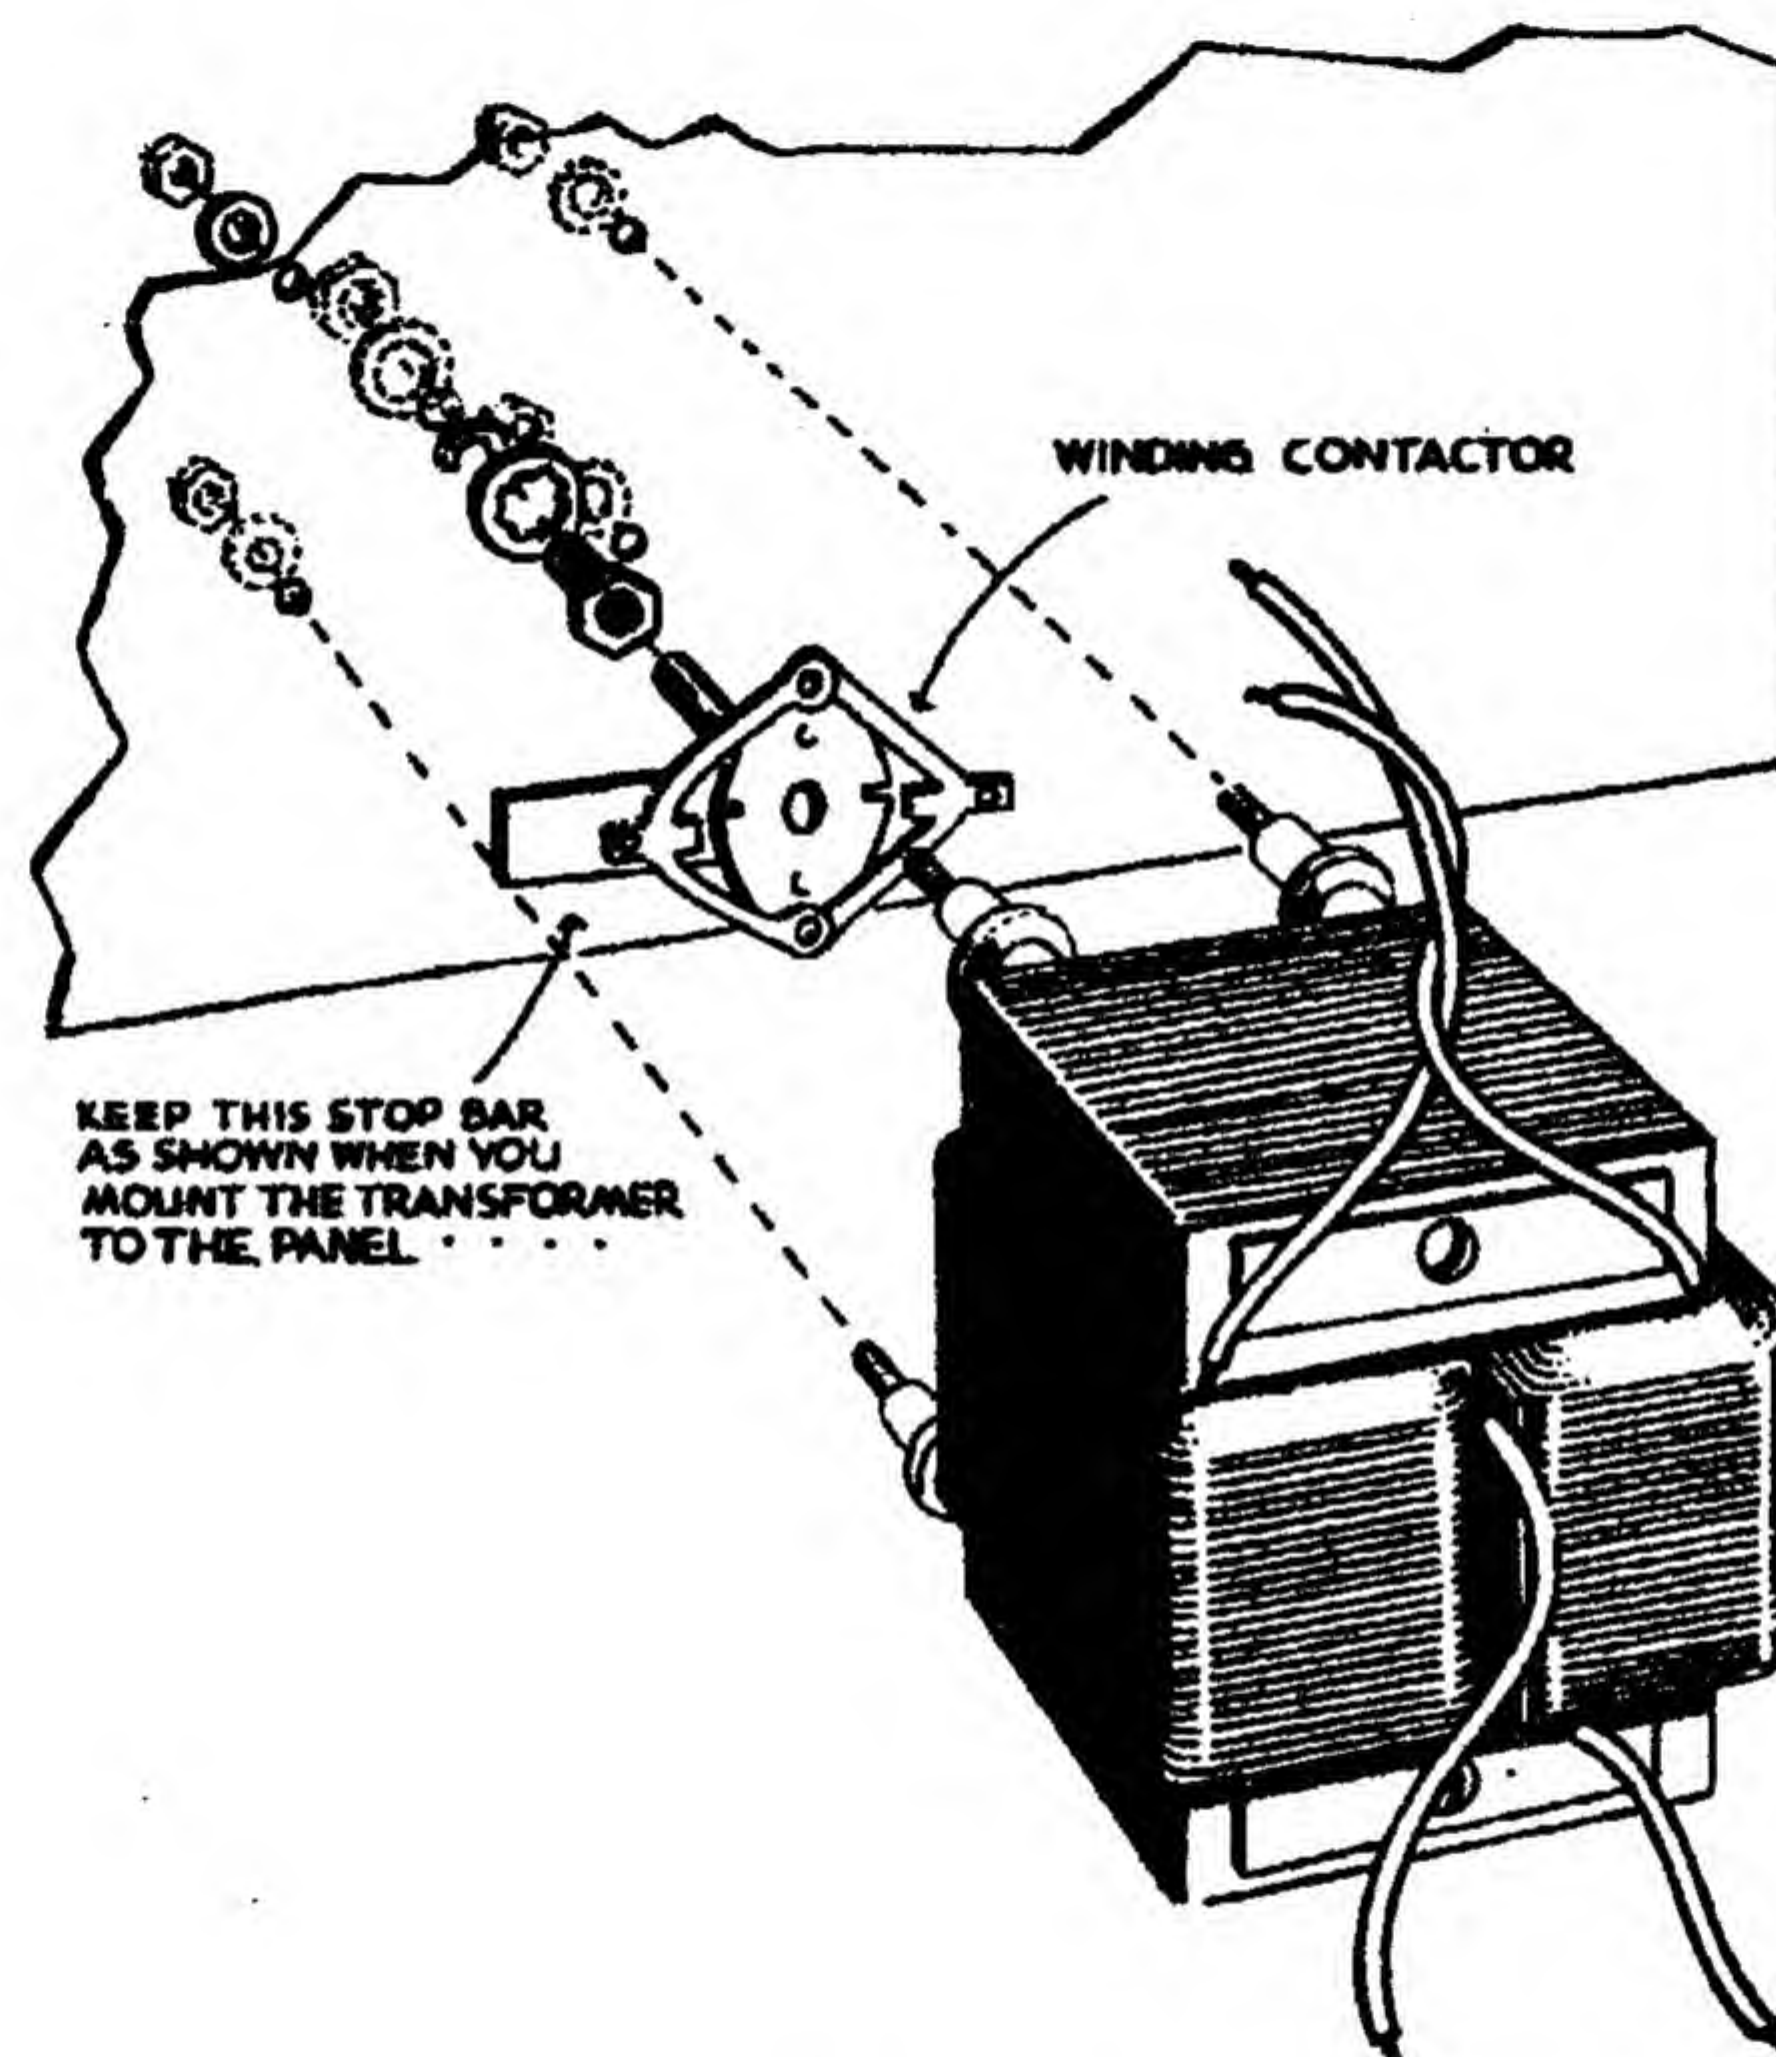

Figure 3
TRANSFORMER AND WINDING CONTACTOR (See Figure 3.)
- () Note that the power transformer has two yellow leads and two black leads. Hold the stop bar of the winding contactor in a horizontal position as shown in Figure 3 and place the four mounting studs of the power transformer (black leads on top) in the four panel openings provided. Fasten the transformer to the panel using nickel washers and hex cap nuts.